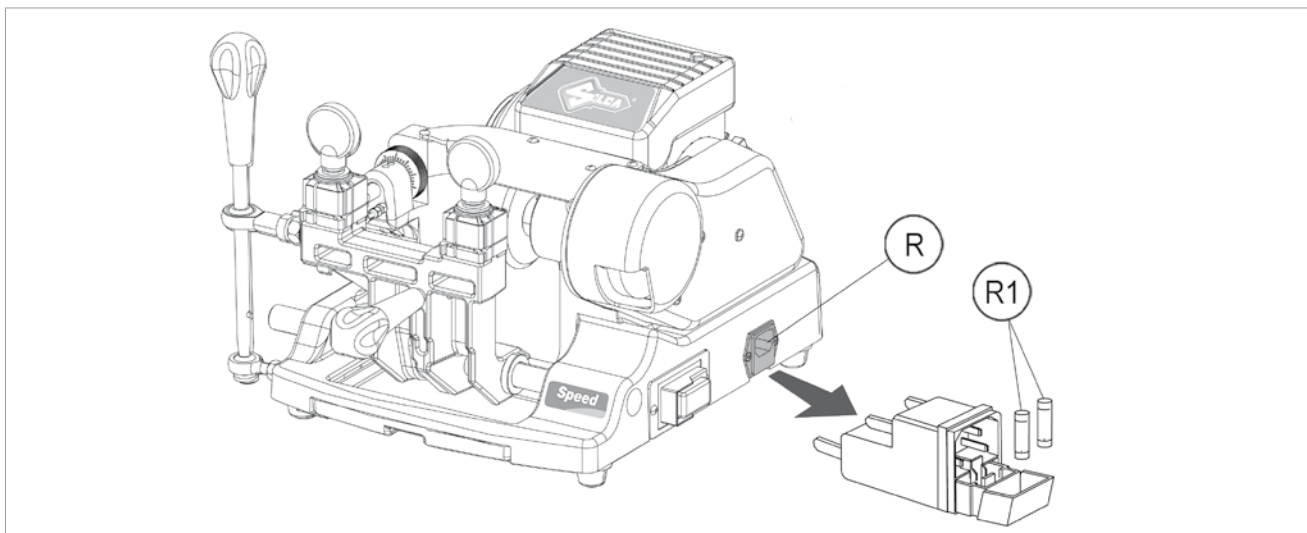

Fig.33
- 1) Remove the fuses box from the key-cutting machine socket (R) (Fig.33).